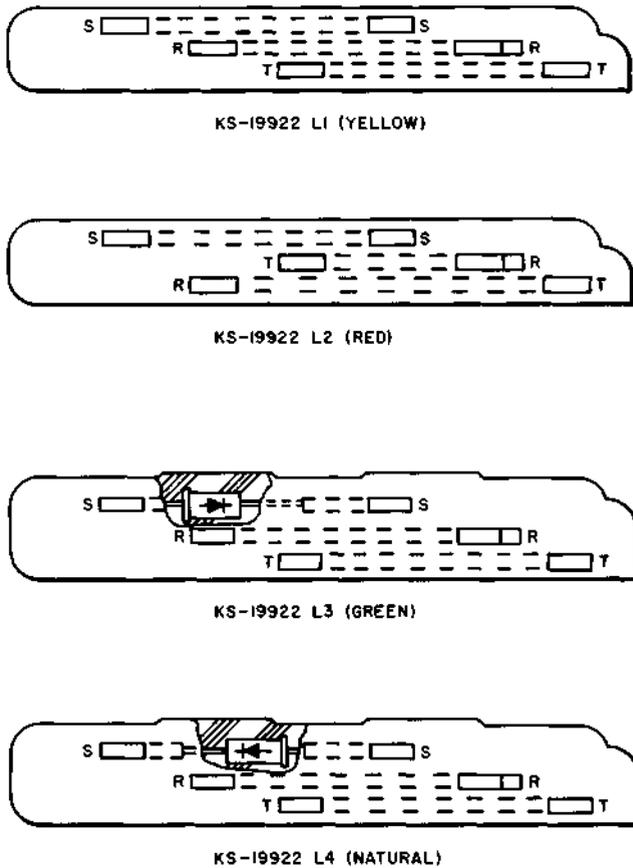

Fig. 25—KS-19922 L1 Through L4 Connectors
**14.03** The contacts on the KS-19922 L1 connector (Fig. 25) connect tip, ring and sleeve to tip, ring and sleeve, respectively. The contacts on the KS-19922 L2 connector connect tip, ring, and sleeve to ring, tip, and sleeve, respectively. The contacts on the KS-19922 L3 connector connect tip, ring, and sleeve to tip, ring, and sleeve, respectively, except that the sleeve contacts are connected by a diode. The diode is arranged to permit current flow only from the sleeve contact at the square end of the connector to the sleeve contact at the notched end of the connector. The KS-19922 L4 connector is the same as the KS-19922 L3 except that the diode between the sleeve contacts is reversed.